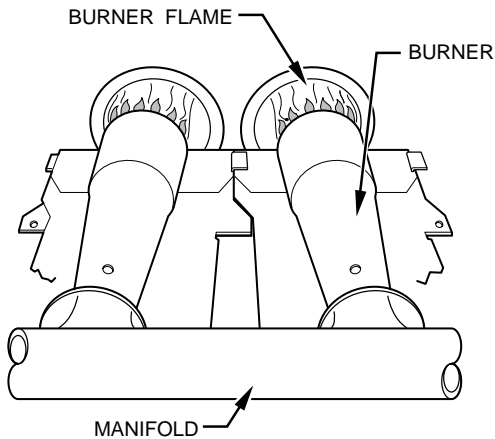

Fig. 9—Burner Flame
16. Check furnace operation through 2 complete heat operating cycles. Look through sight glass in burner enclosure to check burners. Burner flames should be clear blue, almost transparent. (See Fig. 9.)